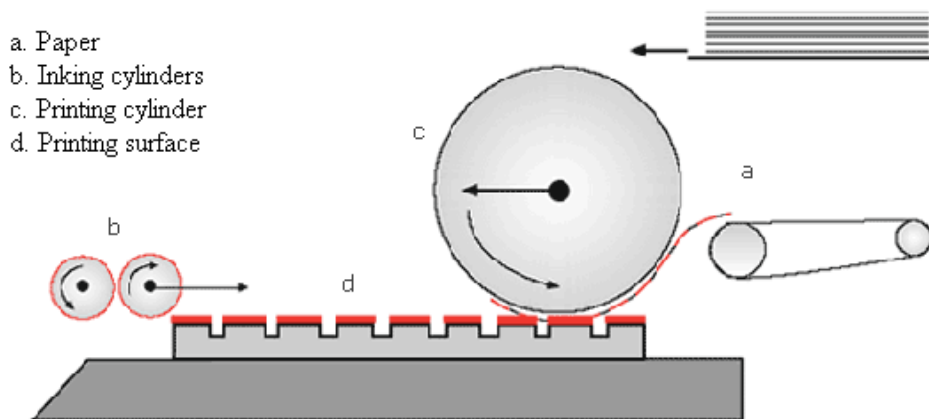

Fig. 6: Typographic press.
**Typography** consists of printing based on **raised surface**. The printing surfaces have the printing areas at a higher level (raised) than the non-printing areas. The printing areas are those which transfer the ink to the paper (fig. 6).